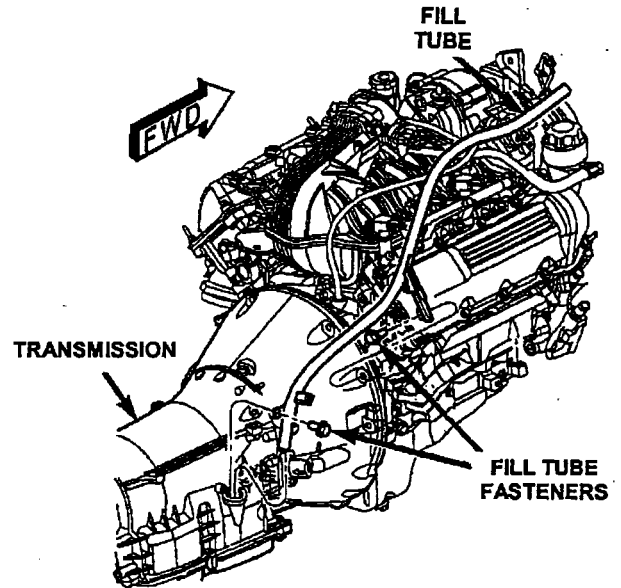

Figure 18
2. Remove the two fill tube fasteners (Figure 18).